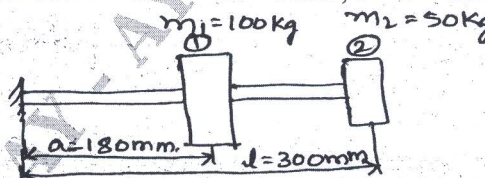

Fig.Q10(b)
- b. Find the lowest natural frequency of vibration for the system shown in Fig.Q10(b) by Rayleigh's method. $E = 1.96 \times 10^{11} \text{ N/m}^2$, $I = 4 \times 10^{-7} \text{ m}^4$.